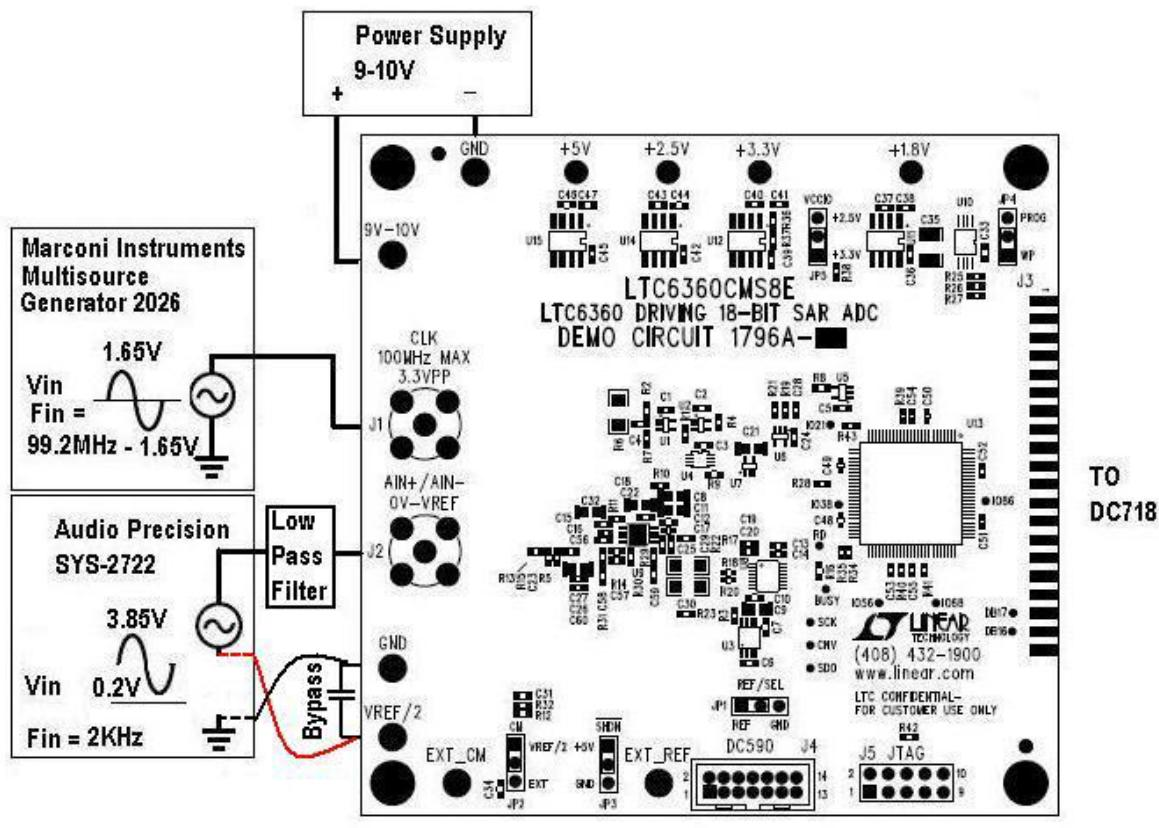

Figure 2. DC1796A Test Diagram
This board is tested by measuring the distortion at -1dBFS, 2kHz single-ended input, as shown in Figure 2.
1. Make sure that all the jumpers are set as shown in Figure 2 (DC1796A test diagram).